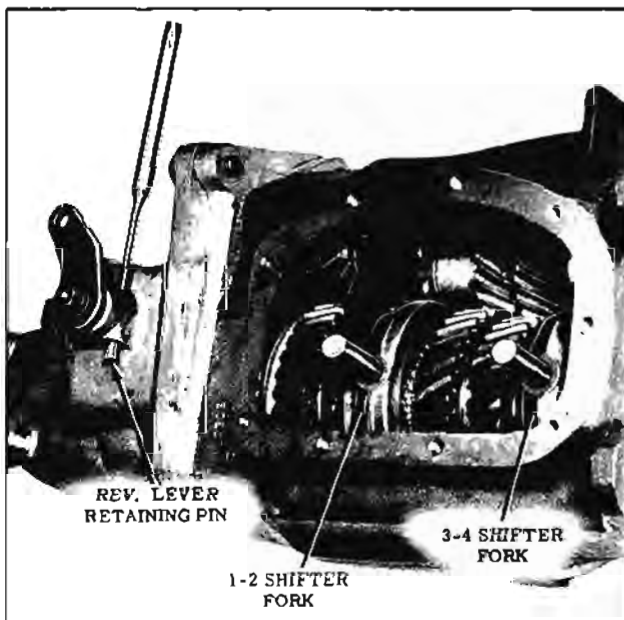

Fig. 11-215 Reverse Lever Retaining Pin Removal
4. Remove the 3-4 and 1-2 shifter forks. (Fig. 11-215)
6. Drive the retaining pin from the reverse shifter lever. (Fig. 11-215)